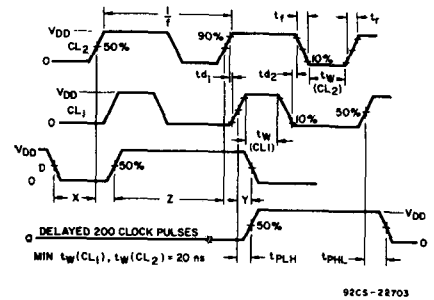

Fig. 4 — Timing diagram—two-phase clock.
Two-Phase Clock Operation (CL_1, CL_2); Clock Mode (CM) = High; $3\text{V} \leq V_{DD} \leq 15\text{V}$. See Figure 4.